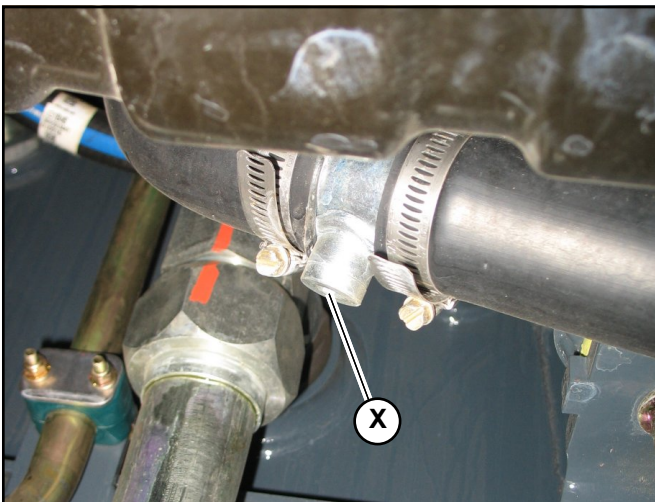

Fig. 200 – Deutz Engine Drain Plug
- c. Remove the drain plug (X, Fig. 200) and allow the coolant to drain completely.